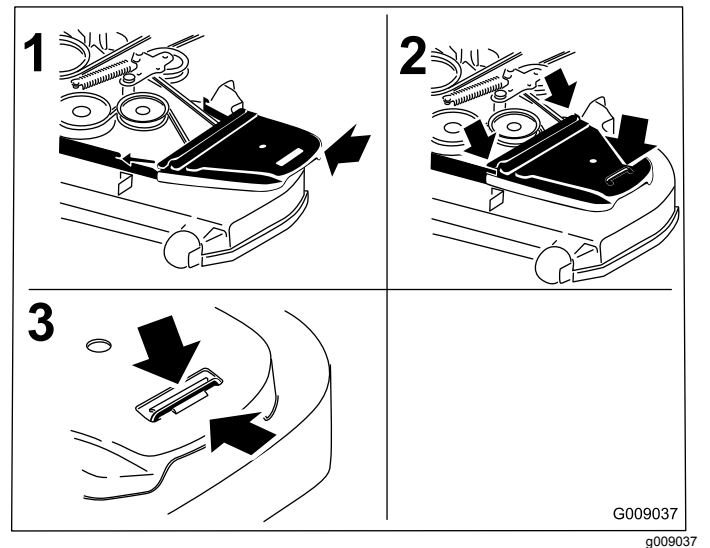

Figure 91
10. Install the belt covers (Figure 91).